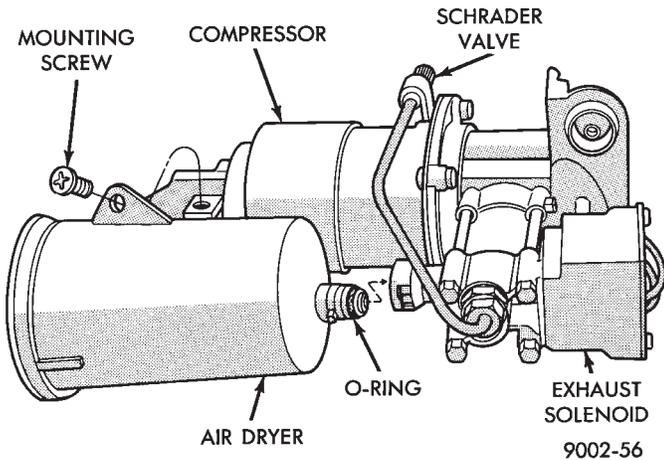

Fig. 13 Air Dryer Remove/Install
- (1) Remove dryer-to-compressor retaining screw (Fig. 13).
- (2) Rotate dryer assembly 90° to release retaining tangs from exhaust solenoid housing and withdraw unit.
- (1) Insert and index air dryer locking tangs into exhaust solenoid outlet.
- (2) Rotate air dryer assembly to lock position and install air dryer-to-compressor retaining screw (Fig. 13).